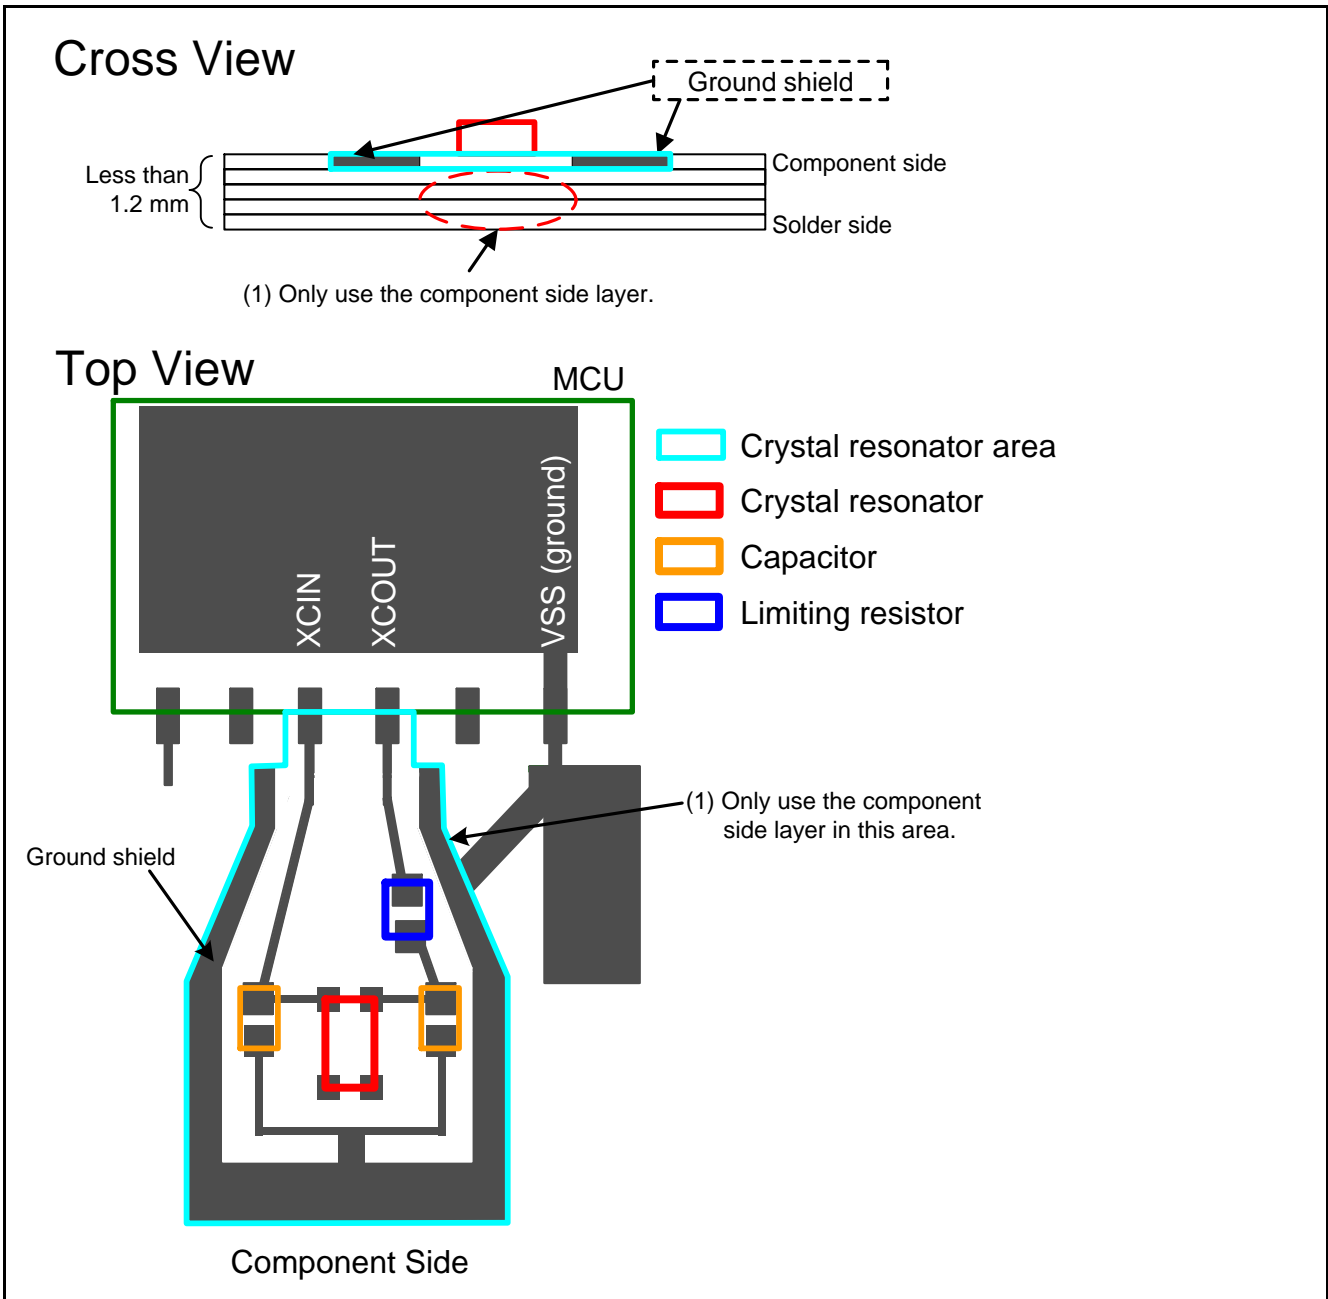

Figure 1.5 Trace Example When a Multilayered Board is Less Than 1.2 mm Thick
(1) describes points when making a multilayered board that is less than 1.2 mm thick, and Figure 1.5 shows a trace example.